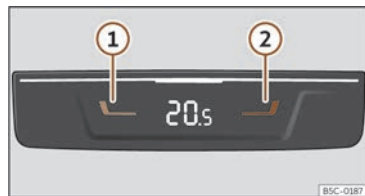

Fig. 110 In the centre console, rear section: controls for the rear seats.
- Press buttons  and  >>> **Fig. 110** to adjust the temperature of the rear zone.